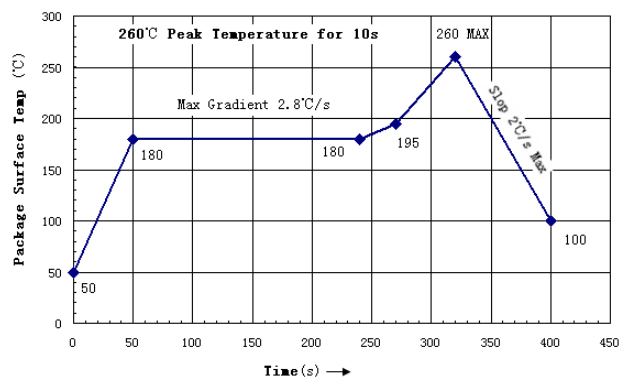

FIGURE 4.
- Figure 4 is the reflow profile for Pb free process